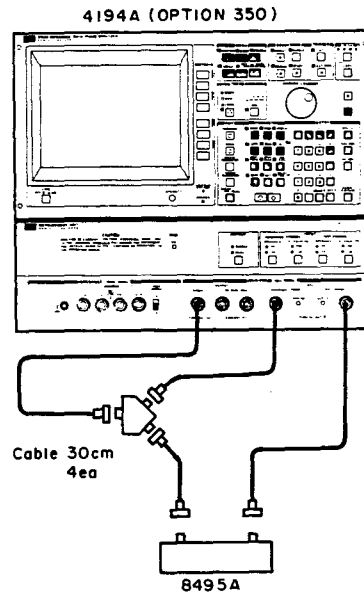

Figure 4-4. Gain-Phase Measurement Accuracy Test Setup: 50Ω
1. Set up the 4194A as shown in Figure 4-4.